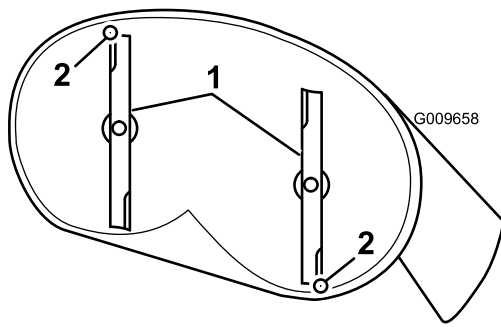
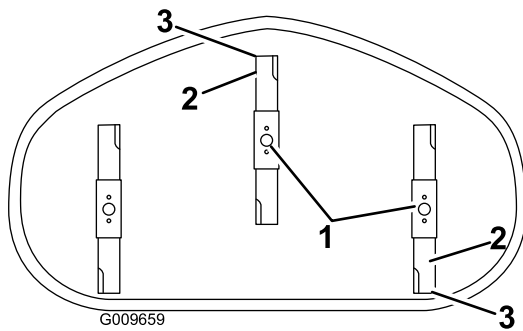

Figure 56
Figure 57
4. Carefully rotate the blades so they are facing front to rear (Figure 56 and Figure 57).
8. After adjustment, check the front-to-rear slope again. Continue adjusting the nut until the front blade tip is 1/16-5/16 inch (1.6-7.9 mm) lower than the rear blade tip (Figure 56 and Figure 57).